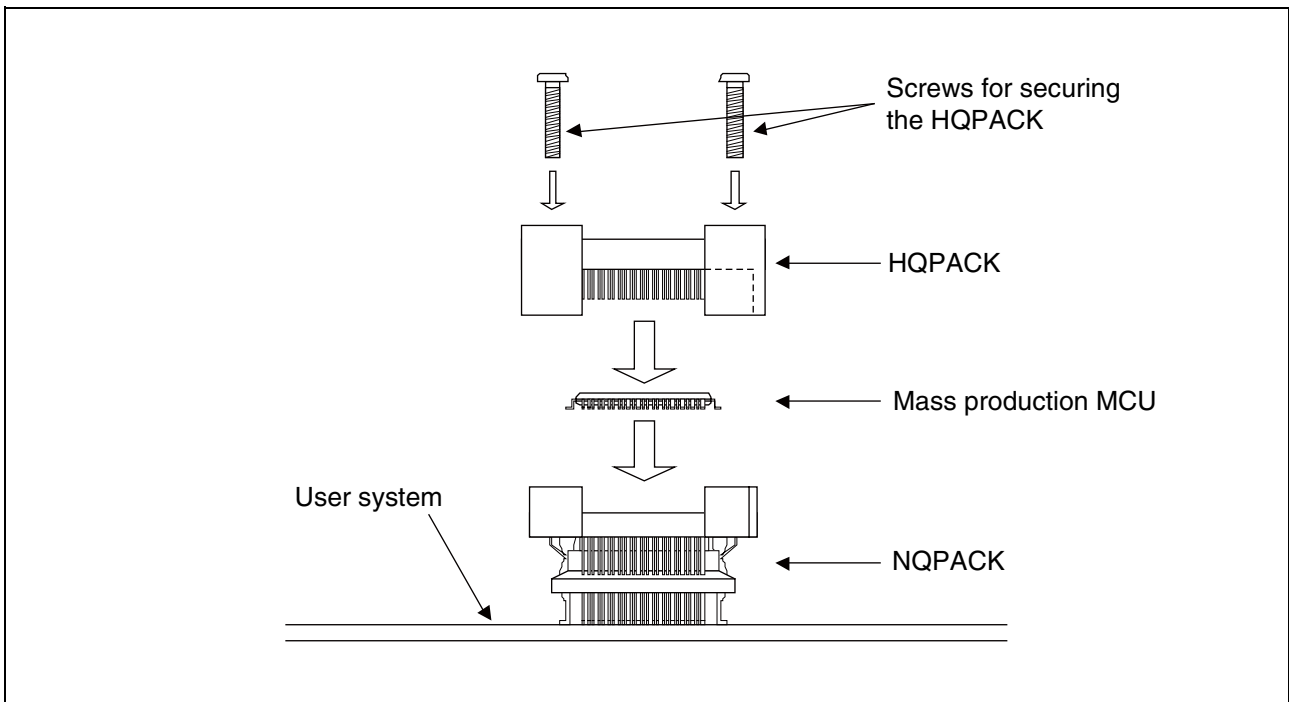

Figure 5 Mounting a mass production MCU
2. Confirm that the mass production MCU is correctly mounted on the NQPACK, and then align the index mark (the only corner with an angle cut-out) of the HQPACK with the index mark of the NQPACK, and insert it (See “Figure 5”).